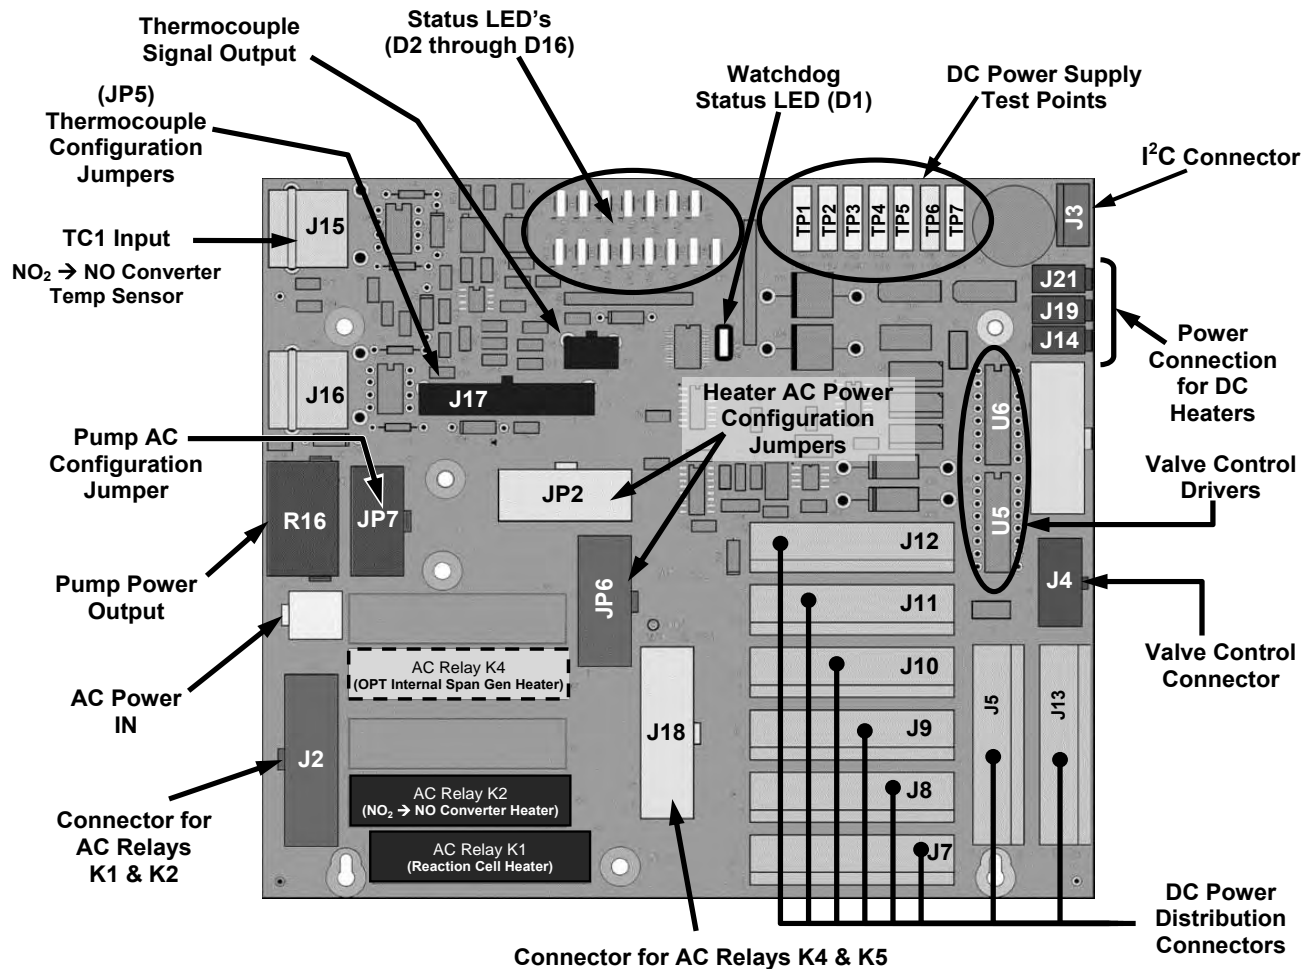

Figure 13-13: Relay PCA Layout (P/N 045230100)
The CPU issues commands via a series of relays and switches located on a separate printed circuit assembly, called the relay PCA (Figure 13-13), to control the function of key electromechanical devices such as heaters and valves. The relay PCA receives instructions in the form of digital signals over the I2C bus, interprets these digital instructions and activates its various switches and relays appropriately.
- TC2 (J16) is currently not used (see Figure 13-13 for location of J15 and J16).